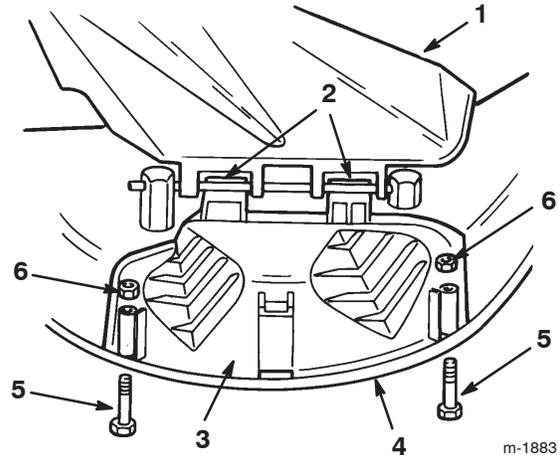

Figure 14
4. Rotate the discharge cover down over the opening, and onto the lower lip of the mower (Fig. 14).
5. Secure the discharge cover to the lower lip of the mower with bolts and nuts (Fig. 14).